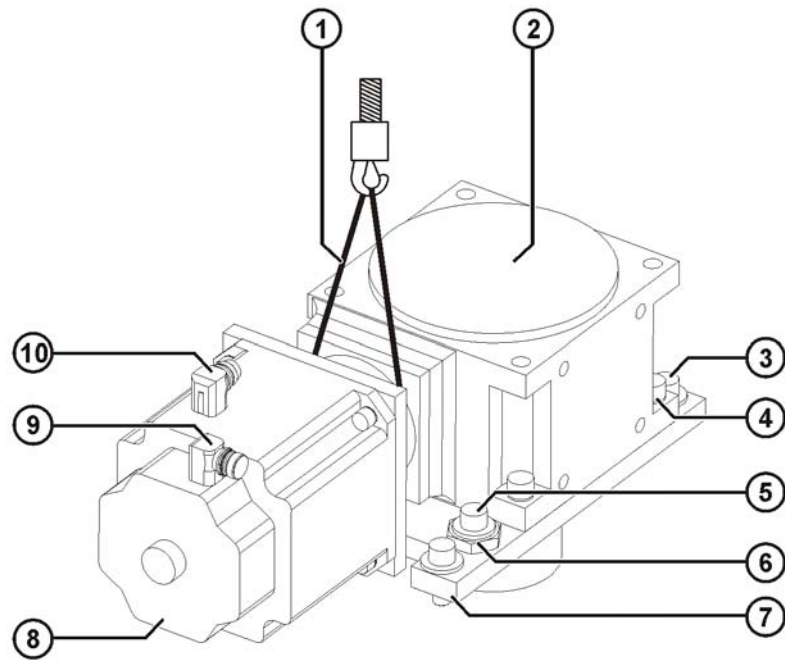

Fig. 11-1: Removing the drive assembly
1. Release and unplug connectors XM7 and XP7 (>>> Fig. 11-1) from the sockets.
2. Remove Allen screw (5) and lock washer and take off eccentric.
3. Remove three Allen screws (3) together with lock washers.